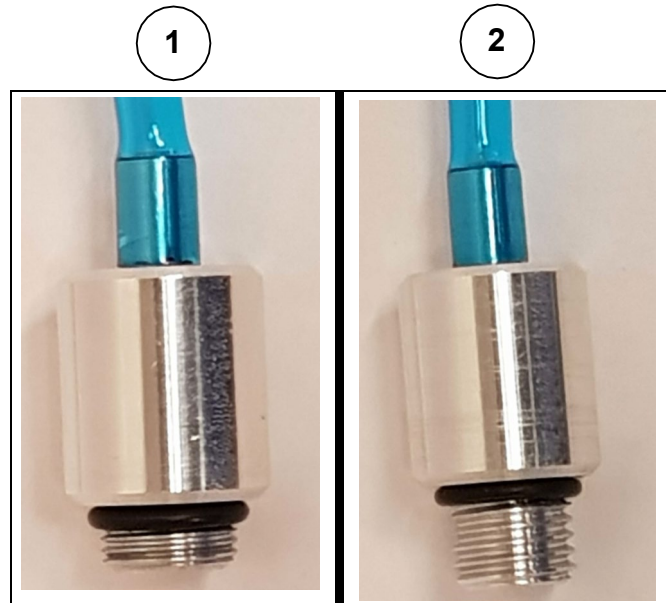
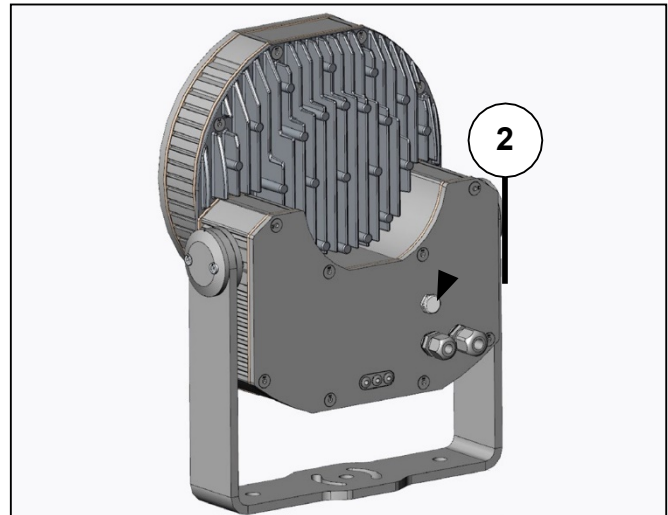

Figure 3: Pump adaptors
Figure 7: Pressure relief valve on Exterior 400
20. Remove the pump adaptor (figure 3) and immediately mount the pressure relief valve (figure 7) to prevent water droplets from entering the product.